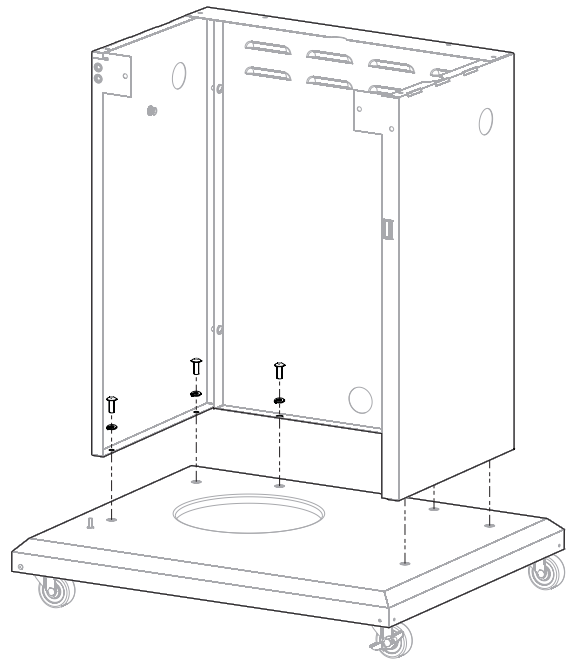

Figure 4
5. Place Cart Assembly onto Base Assembly and secure with six 1/4-20 x 3/4 screws and six lock washers (two per panel). Do not tighten screws until all screws and lock washers are properly inserted into the base. See Figure 4.